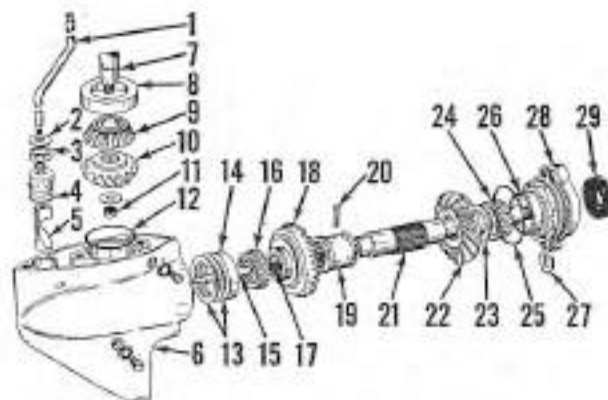
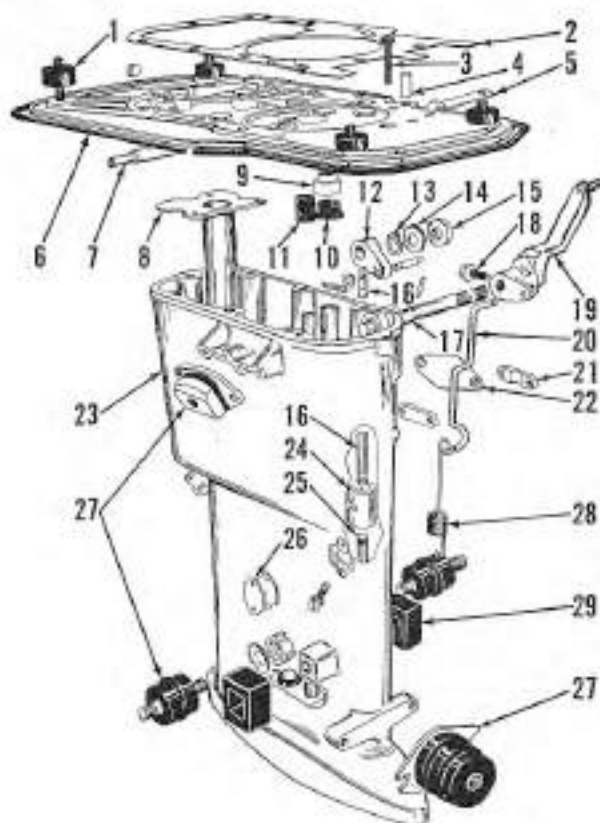

Fig. Mc141—Exploded view of gearcase and associated parts used on late motors except Custom Flying Scott.
Fig. Mc142 — Lower motor housing and associated parts used on late models.
Late Two-Cylinder and Three-Cylinder Motors Except Custom Flying Scott: Refer to Figs. Mc141 and Mc142. To service the propeller shaft, driveshaft and gears, it is first necessary to detach the gearcase housing and pump housing assembly from the lower motor housing. To separate the units, place the shift lever in "Neutral" position, remove inspection cover (26—Fig. Mc142) and remove the lower coupling screw from shift rod coupling (24). Move the shift lever to "Reverse" position to separate the upper and lower shift rods. Remove the screws retaining the pump housing to lower motor housing (23) and slide the pump housing and gearcase unit downward out of lower motor casing. Disassemble the huller and water pumps as outlined in COOLING SYSTEM paragraph, then unbolt and remove the pump housing. Driveshaft and gear assembly (7 through 11—Fig. Mc141) will be removed with pump housing. Pinion gear (10) and bearing (9) can be removed with a suitable press after removing shaft nut (11).